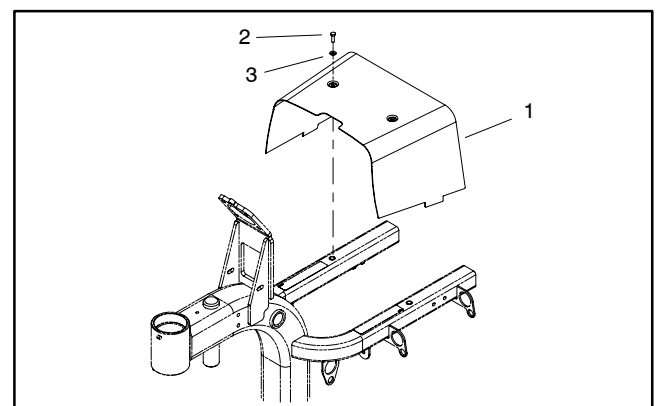

Figure 46
2. Remove two (2) cap screws and flat washers that secure center shroud to machine (Fig. 46). Lift center shroud from frame.
9. Position center shroud to machine and secure with two (2) cap screws and flat washers (Fig. 46).